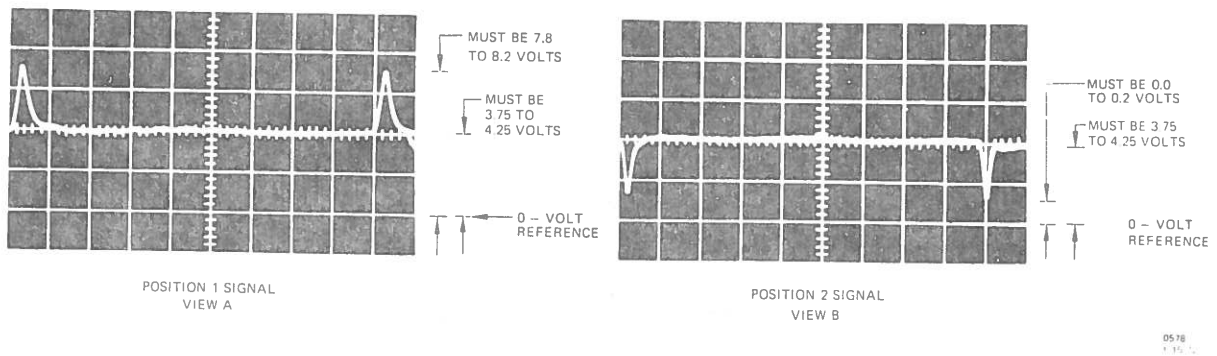

Figure 6-15. Position Signal Magnitude, Single Seek
1. Use oscilloscope setup of 6.11.2 (1) except for step d; position TIME/DIV to 1 ms (calibrated).
4. Observe scope patterns for position 1 and 2 signals. See figure 6-15.